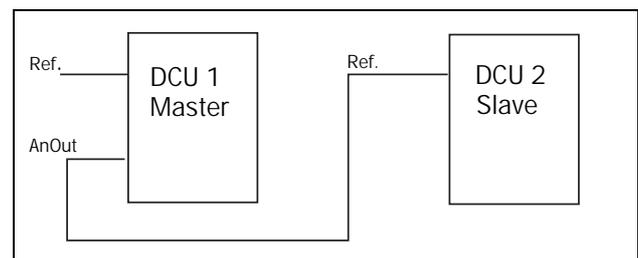

Fig. 44
- a reference signal for the next DCU in a Master/Slave configuration (see fig. 44).